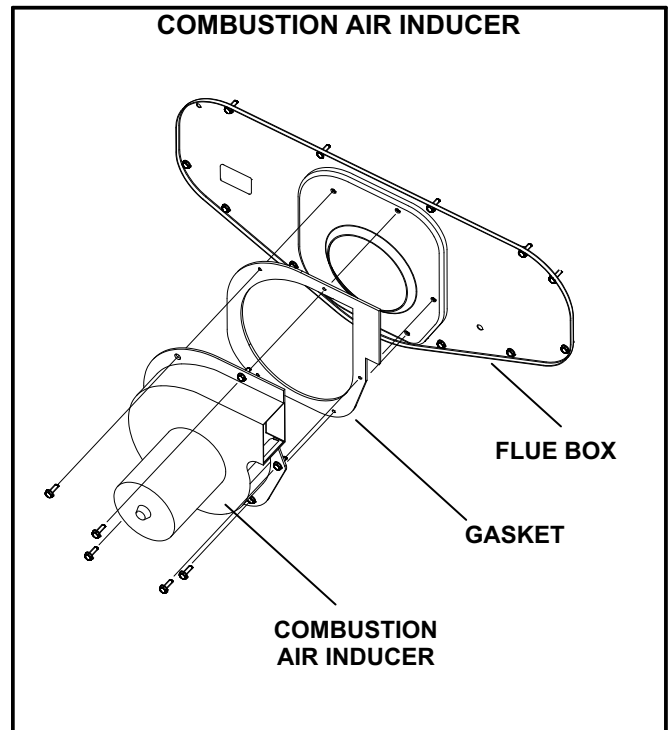

FIGURE 8
- 5- Install replacement combustion air inducer and gasket. See figure 8. Secure with screws provided in kit.